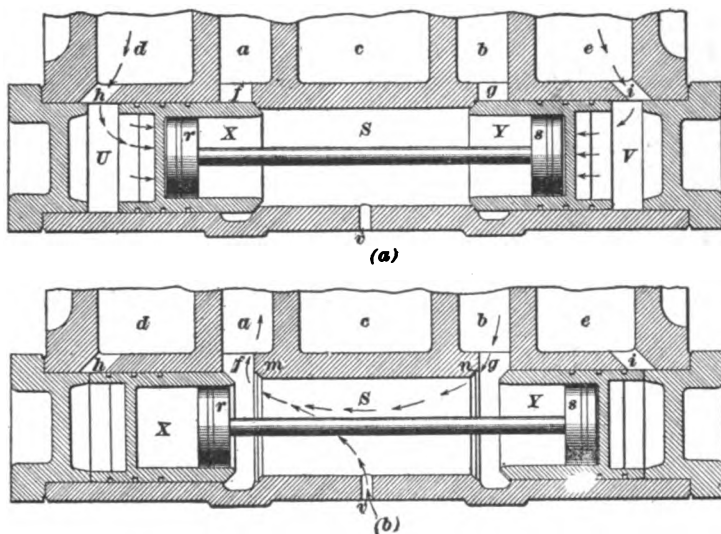

FIG. 32.
Sectional views of the over-pass valves are given in Fig. 32 (*a*) and (*b*), in which (*a*) shows the position of the valves when steam is being used, and (*b*) shows the position of the valves when the locomotive is drifting with steam shut off. Fig. 32 is not a strictly accurate section of the parts and passages shown, but is so constructed as to show in effect just what
**68. Drifting.**—It is very important that the reverse lever of an engine be carried near the corner when drifting with the throttle closed, and this should not be overlooked. The over-pass valves of the Richmond type are of great service when drifting, and they should receive sufficient attention to keep them in good working order. Failure of the over-pass valves to operate will be manifested by a blow through the vent *v* in the over-pass valve casing, Fig. 32, when working steam, and by a disagreeable thumping when the engine is drifting with throttle closed.